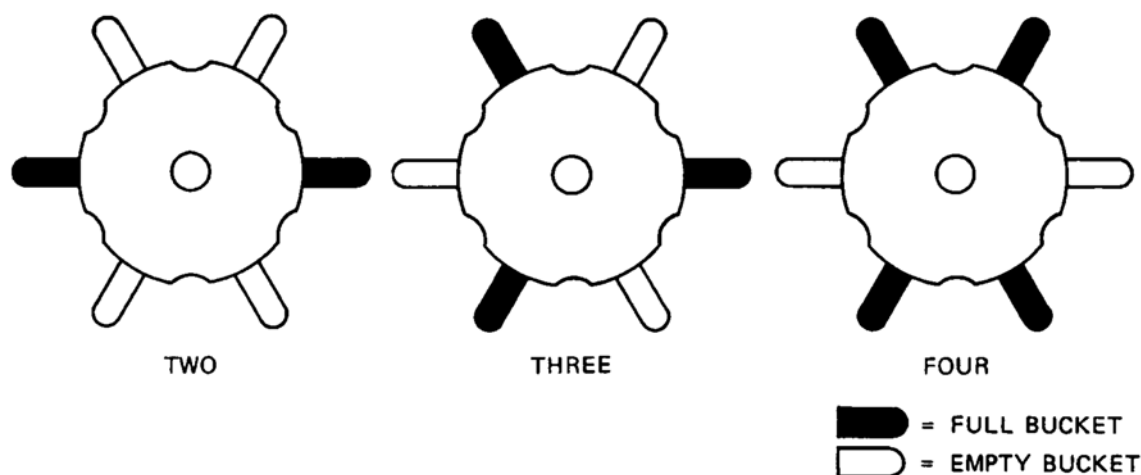

Figure 3-2. Rotor Balancing
- c. when using less than a full complement of six buckets, the rotor can be operated with two, three or four samples, provided opposing pairs of buckets are positioned as shown in figure 3-2. Empty buckets must be placed in the remaining positions.